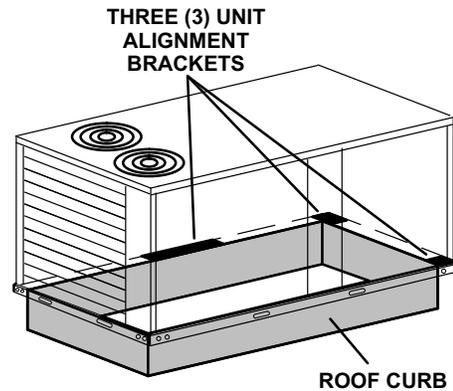

FIGURE 3
- 6- **New roof curbs (89-3/8" in length)** - Remove the three alignment brackets shown in figure 3.
- 7- **Existing roof curbs (81-3/4" in length)** - Set unit on roof curb positioning alignment brackets as shown in figure 3.